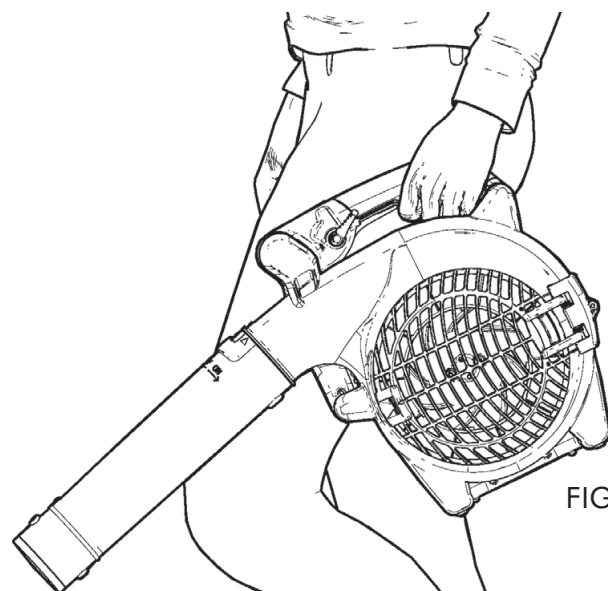

FIG 99A
On full "cruise control" hold blower **at end of handle**, to allow nozzle to point at angle to ground without wrist twist. Shown in Fig.99A.
2. Use blower holding rear of handle as shown Fig 99A (WITHOUT downward wrist twisting as has to be done for other brands) and with cruise control fully on. **AIRLIFT®** is active making blower up to 1 kg lighter to use **with either left or right hand**.